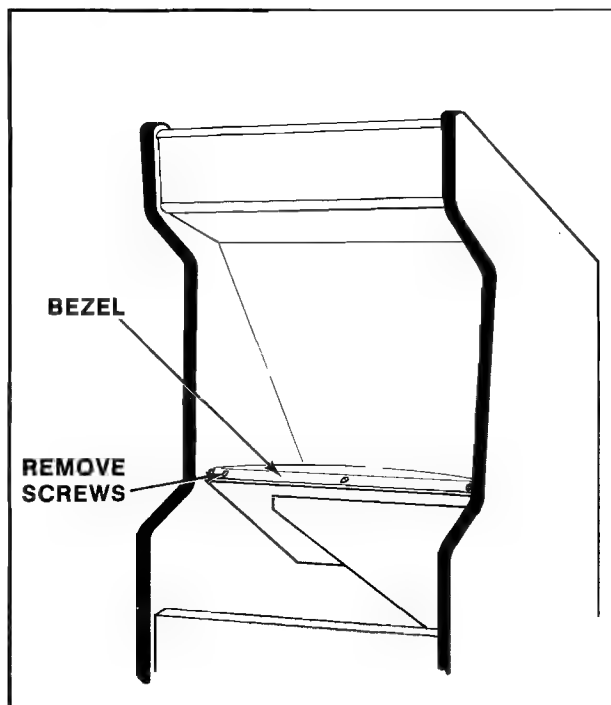

Figure 17 Removing bezel — Upright game
- The T.V. bezel assembly is now free and can be slid out of the cabinet. See Figure 17.